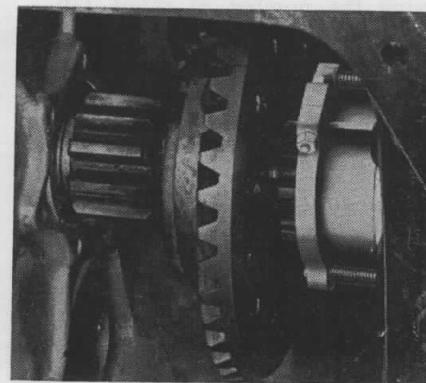

Fig. MH366—Removing differential bearing cups using OTC tool MH670 on models 201, 202, 203, 203G and early 55 & 55K models.
253A. Remove bearing caps or carriers (9—Fig. MH365) from both sides of differential case, noting the number of shims under each. Remove snap rings (8) from ends of through shaft (6) and on early models, pull bearing cups, using Owatonna Tool No. MH670 as shown in Fig. MH366. Pull side gear and pinion assemblies (2—Fig. MH365) out through bearing bores, and remove differential through the case opening. Disassemble differential, renew worn parts & reassemble as shown. Adjust bearings by varying the number of shims under either bearing cap. Complete the adjustment by setting backlash of bevel pinion and ring gear as described under "Main Drive Bevel Gears".